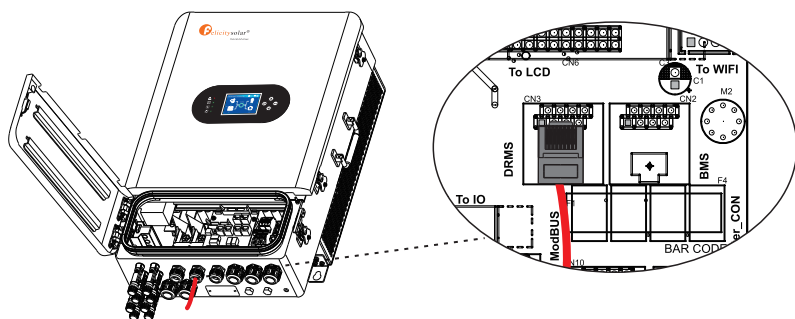

Figure 4.8-1 DRMS interface
**Step 1.** Open the latch from the right side of the machine. See Figure 4.8-1.